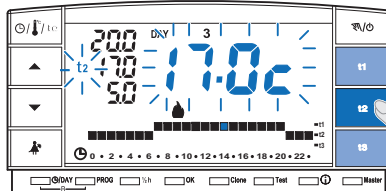

fig. 20
- Press the key (t1, t2 or t3) corresponding to the temperature setting to be changed: the corresponding temperature indicator (t1, t2 or t3) and the large central digits blink (the large central blinking digits will indicate the set temperature that has been set) (fig. 20).